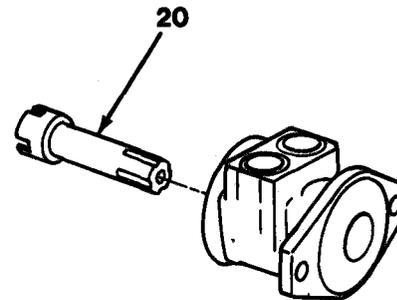

Figure 13-6
8. Remove coupling shaft (20, Figure 13-6).